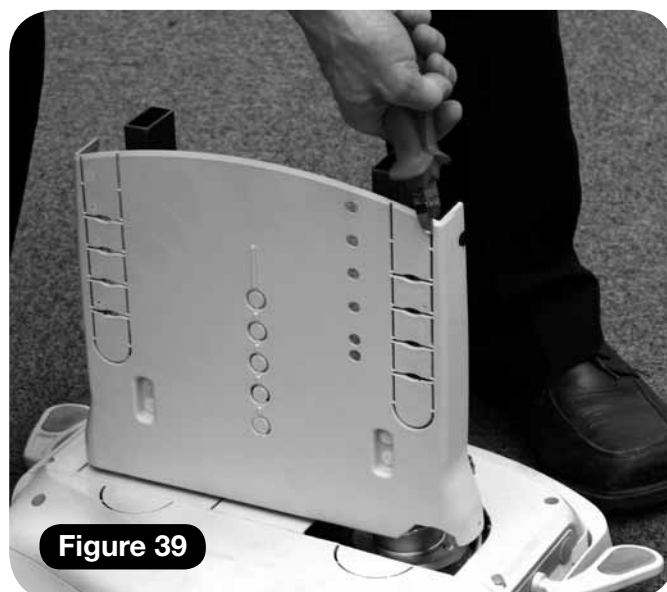

Figure 39
- 1 Depending upon the hand of the stairlift being fitted, remove the appropriate knock-outs from the chassis top rear cover (**Figure 39 – Left hand shown**). Refer to the table below for the number of knock-outs to be removed for the client height.